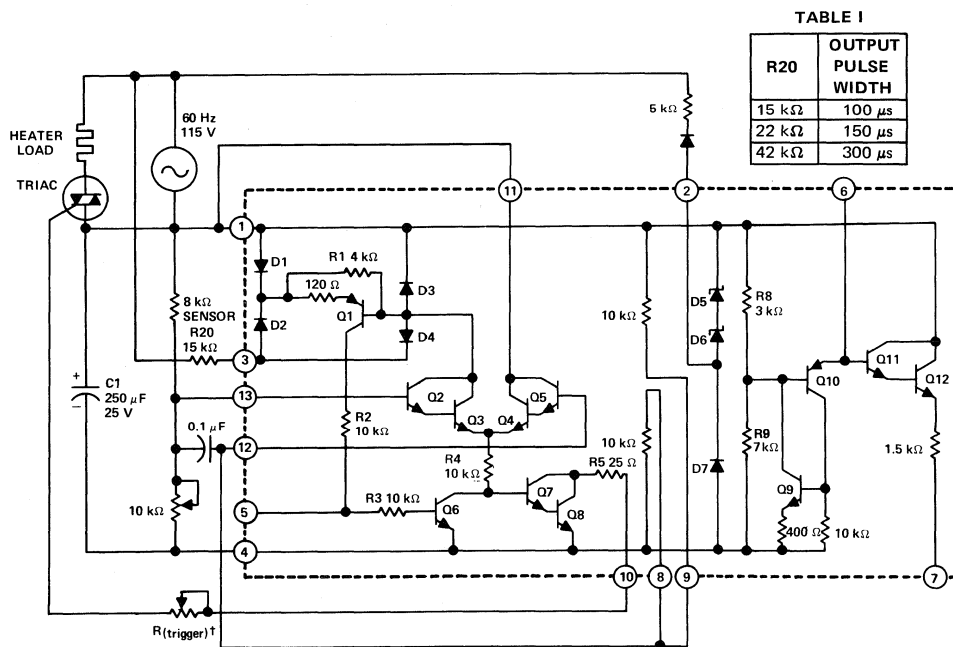
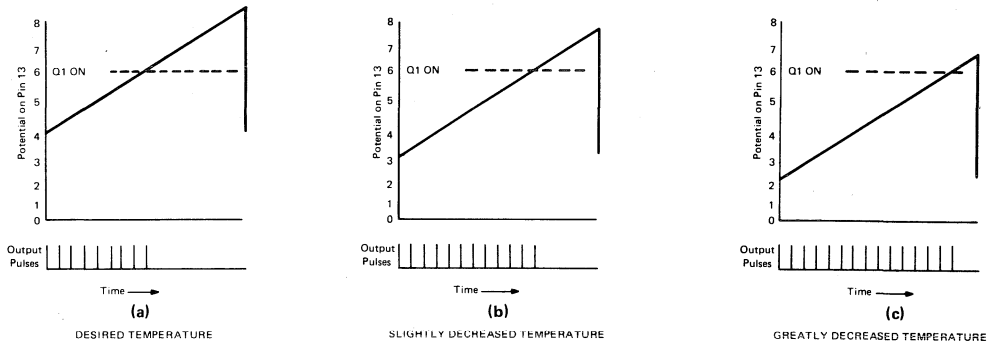

FIGURE 1—ON-OFF HEATER CONTROL
FIGURE 2
- NOTE 5: This is the voltage across an electrolytic capacitor connected between pins 1 and 4 whose charge is maintained by the a-c line voltage. See Figures 1 and 3.
The circuit shown in Figure 1 provides on-off temperature control. Electrolytic capacitor C1 maintains the d-c operating voltage. Since the series combination of D5 and D6 is in parallel with the series combination of C1 and D7, the voltage developed across C1 is limited to approximately 12 V. Because the energy to fire the triac comes from C1, the voltage across pins 1 and 4 will fluctuate as the triac fires. If a more stable operation of the circuit is desired, a 12-volt d-c supply should be connected between pins 1 and 4 in lieu of C1. The temperature sensor must have a negative coefficient in this circuit.
The circuit shown in Figure 3 provides proportional control of a heating system. With the exception of the saw-tooth generator, the circuit of Figure 3 functions the same as that of Figure 1. The sensor of Figure 3 has a negative temperature coefficient.
At the start of the saw-tooth waveform the base of Q1 is high and output pulses occur at pin 10. At the desired temperature a certain number of output pulses occur during each saw-tooth cycle as shown in Figure 2(a). At a slightly decreased temperature the resistance of the sensor increases, lowering the d-c potential of pin 13. This lowers the potential of the entire saw-tooth waveform as shown in Figure 2(b) which causes a few more output pulses to occur. At greatly decreased temperatures many more pulses occur each saw-tooth cycle as shown in Figure 2(c).
Similarly, increases in temperature cause proportionately fewer output pulses than the normal number of Figure 2(a). Thus the proportional control feature allows a smoother control of temperature in this application by always providing output pulses during some portion of the saw-tooth generator cycle as opposed to the "full on/full off" circuit of Figure 1.